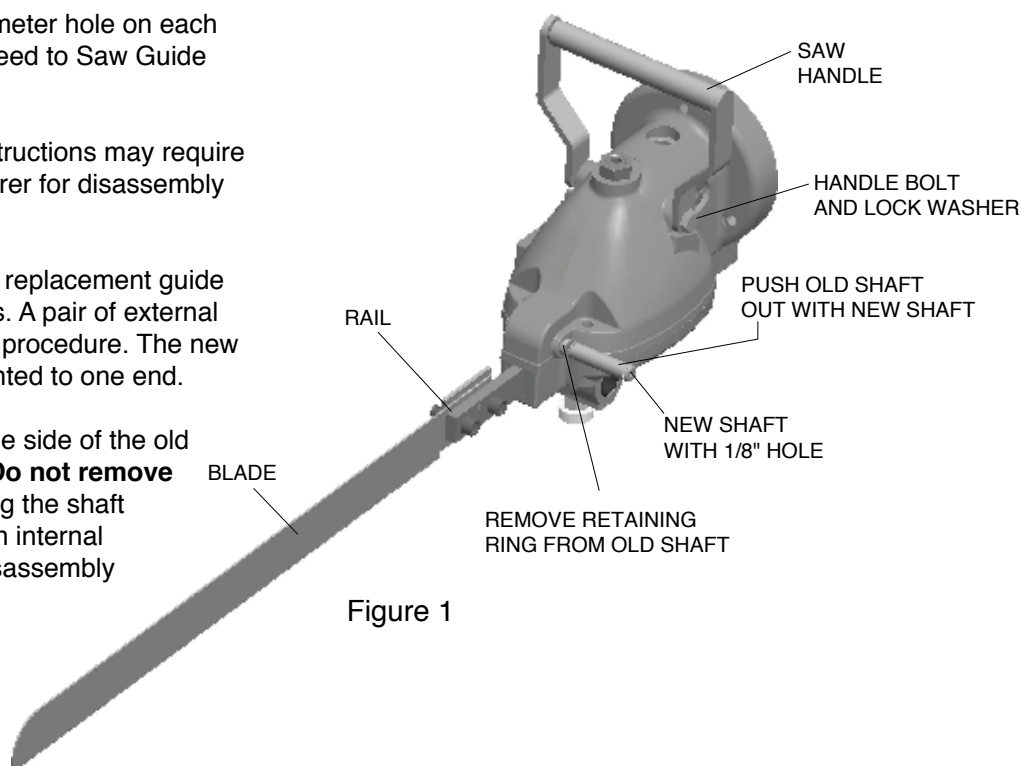

Figure 1
2. Remove the two bolts and lock washers from the saw handle. There is a set on both sides. Retain these bolts if you plan to remove the saw guide in the future. (See Figure 1.)
Saw It® pneumatic saws sold prior to the March 2011 introduction of the saw blade guide do not have means to mount the bow spring to the saw. Replacement of the front guide shaft is required. (See Figure 1.) Units sold after March 2011 are prepped. Refer to Saw Guide Installation.